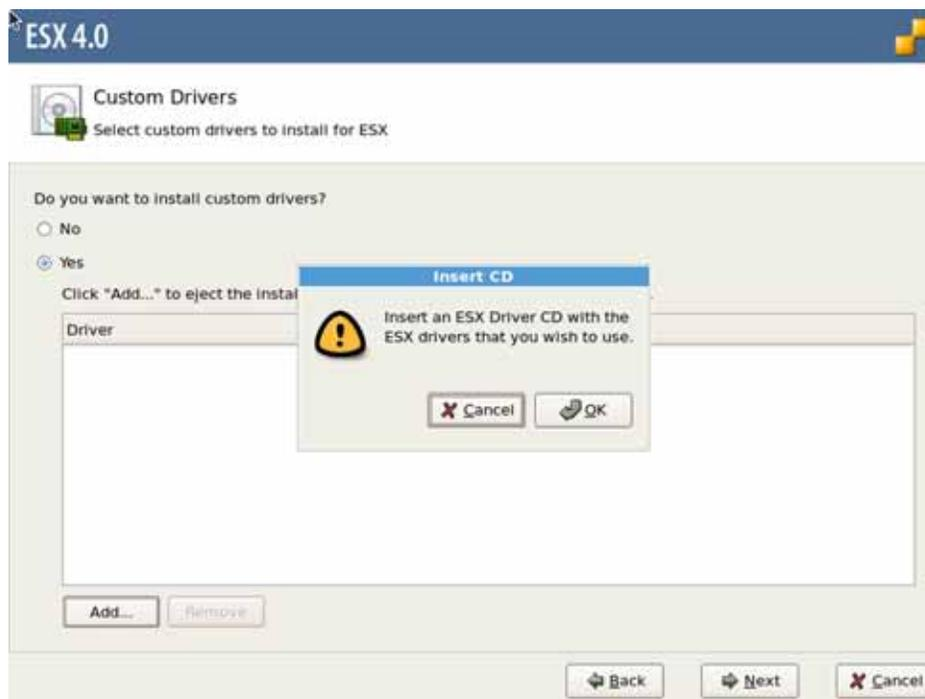

Figure 25 ESX Installer — Specify Custom Drivers
- Step 8** On the Custom Drivers dialog, in the Load Custom Drivers section, click *Yes*. This step displays a popup that alerts you to select the drivers that you want to install., as shown in Figure 25.